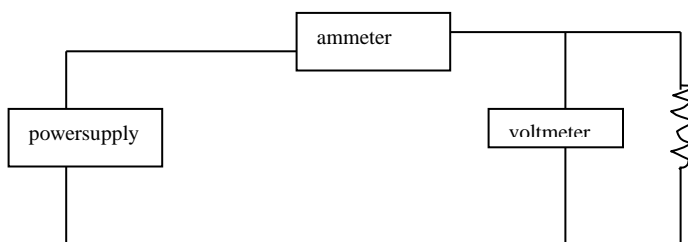

Figure 1
3. Connect the circuit as shown in Figure 1. Note that the ammeter (20 amp hole connection only) is placed in series with the coil, while the voltmeter is connected in parallel across its terminals. **Always have the coil immersed in the water before connecting the circuit!** Set the power supply to its maximum value of 3.2 amps then quickly turn it off. Have your connections approved by the instructor or laboratory assistant.